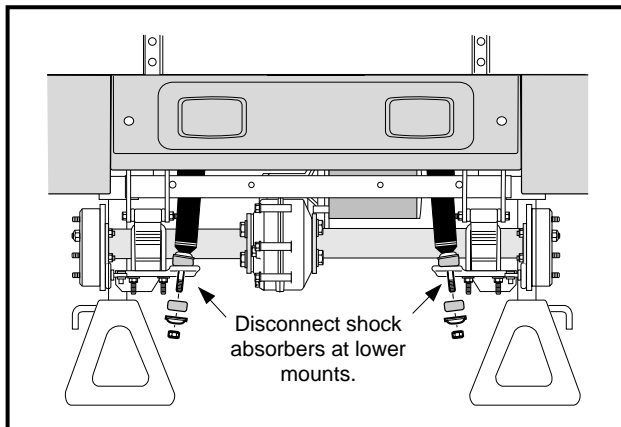

Figure 9-1 Remove Shock Absorbers
2. On the upper shock absorber mount, tighten nut (5) until rubber bushing (10) expands to size of cup washer.
3. On the lower shock absorber mount, install mounting hardware. Tighten the nut (5) until the rubber bushing (10) expands to the same diameter as the cup washer (**Figure 9-1, Page 9-2**).